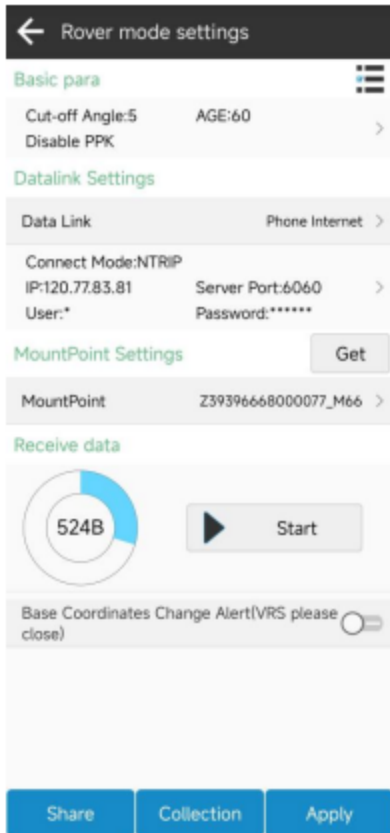

Figure 2.4-1
Click on "Device" -> "Rover," as shown in Figure 2.4-1. GNSS positioning devices can calculate position coordinates by receiving satellite signals. Under certain atmospheric conditions, the device can only achieve single-point positioning with limited accuracy. To ensure high-precision positioning, in addition to satellite signal reception by the GNSS device, it needs to receive signals from another fixed GNSS device nearby. This secondary device's signal serves as a reference signal. By using the reference signal's known coordinates and atmospheric influence, the two sets of GNSS devices can calculate high-precision positions. The stationary GNSS device is called the base station, while the mobile one is referred to as the rover. The data transmitted from the base station to the rover is termed differential data, and the transmission method is known as a data link. Setting the rover mode configures the GNSS device as a rover. It involves transmitting the base station's GNSS satellite signals to the GNSS device through specific means, achieving high-precision positioning.
1. Rover Network: As shown in Figure 2.4-1, this involves obtaining differential data through the network of the device where the software is installed. It retrieves data from a specified server address using a protocol, then sends it to the GNSS device via the software's communication connection for high-precision calculation. Clicking on the parameters allows you to modify and edit the settings, similar to host network configuration. No APN parameters need to be configured. Once parameters are set, obtain access points and select the desired one for connection, as shown in Figure 2.4-6. Start the connection process; if configurations are correct, the data reception progress bar will show activity. If the progress bar doesn't move, review your settings.